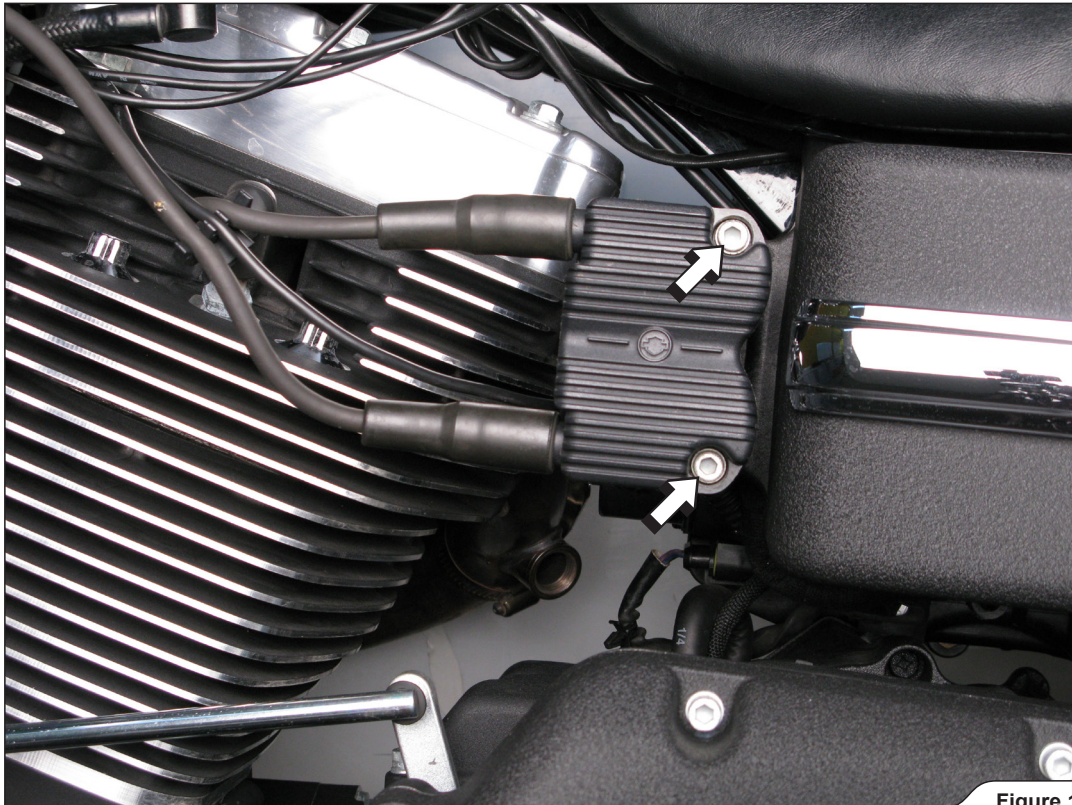

Figure 1
2. Unscrew the marked bolts and partially remove the coil (**Figure 1**).